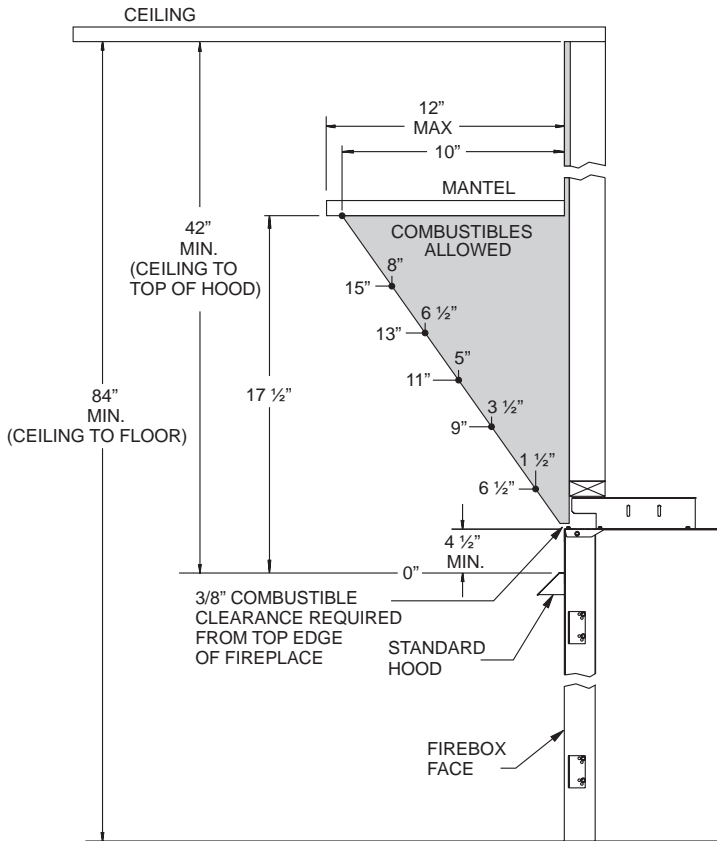

Figure 6a - Mantel Clearances with Standard Hood
**Ceiling Clearances:** The ceiling height should not be less than 42" from the top of the hood. **See Figures 6a and 6b.**